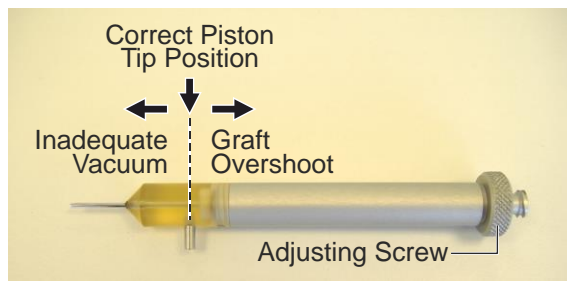

Figure 5-11. Correct Positioning of the Piston within the Implanter Head
Upon the initial installation of the implanter head in the implantation handpiece, the implanter's piston remains in the forward position and cannot be moved by turning the handpiece's adjusting screw. Calibrating the implanter head places the implanter head's piston tip at the correct position, as shown in Figure 5-11.
During this stage, it is important to have the implanter head's piston tip at the correct position, i.e. aligned with the implanter head's suction port, as shown in Figure 5-11. At this position, the graft can be sucked up and then pushed towards the recipient site.
6. While looking through the implanter head, turn the adjusting screw of the handpiece to move the implanter head's piston tip to the correct position, as shown in Figure 5-11.